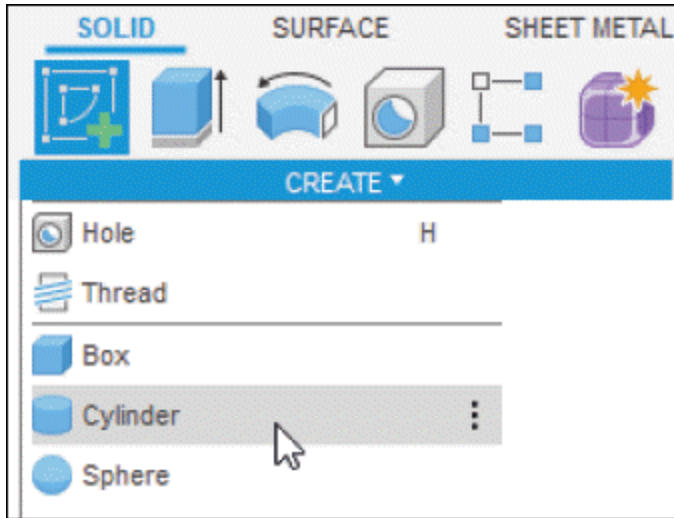

Figure-63. Cylinder tool
- Click on **Cylinder** tool in **CREATE** drop-down from **Toolbar**; refer to Figure-63. You are asked to select plane for creating base sketch. Select desired plane/face.